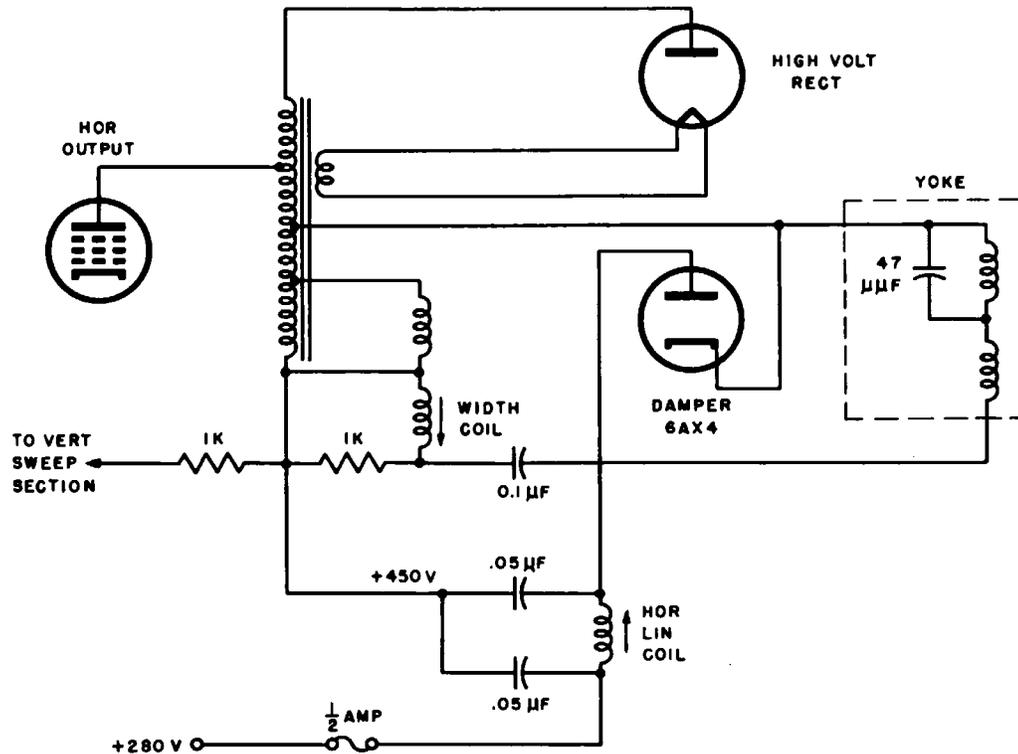

Fig. 4-4. Schematic of typical damper circuit.
**DISCUSSION.** The boost network, generally consisting of two capacitors and the horizontal linearity coil (see Fig. 4-4), aid in filtering the B+ boost voltage produced in the damper circuit. If one of the capacitors opens or loses capacity, poor filtering occurs and results in picture ringing. At this time, the current waveform in the
**QUES. 4-4.** The raster is small vertically and horizontally, and the picture is dim. The low-voltage rectifier, horizontal deflection, and damper tubes are checked and found to be good. A voltage check of the low-voltage B+ (+280 volts in Fig. 4-4) indicates that this voltage is normal, but a check of the boost voltage (+450 volts in Fig. 4-4) indicates that it is only +300 volts, and is therefore considerably below normal. If a resistance check of the components in the damper circuit does not locate the source of trouble, what is the probable cause?